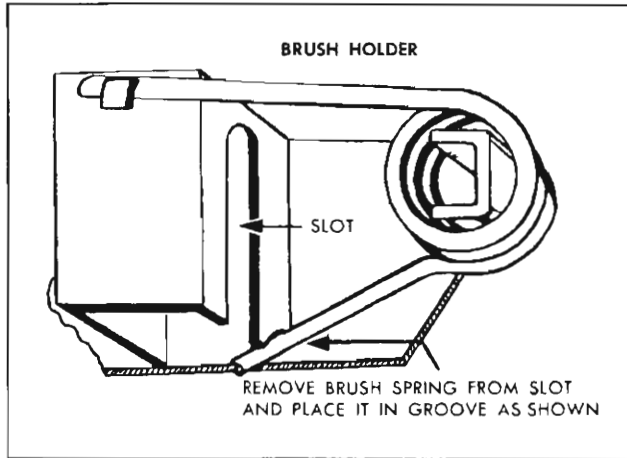

Fig. 65—Releasing Brush Spring Tension
3. Release brush spring tension (fig. 65), slide armature and end plate from motor frame. Pull end plate from armature.